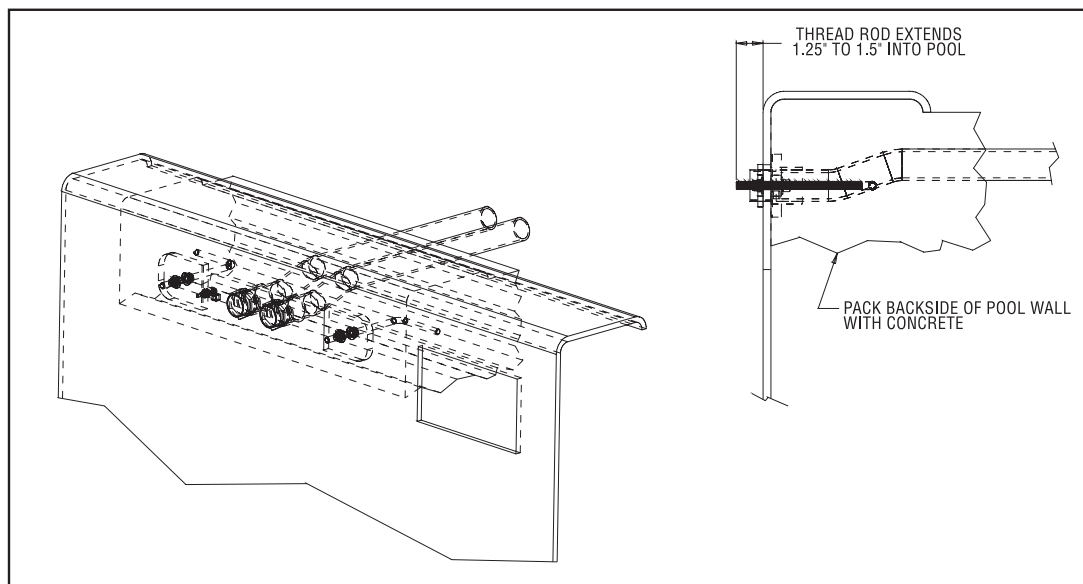

Fig. 4.10
- Thread the 3/8" threaded rod into the holes in the cut off end pieces, so that once permanently installed, 1-1/4" to 1-1/2" of threaded rod will penetrate beyond the pool wall surface. Refer to Figure 4.10. To help prevent cross threading, thoroughly clean the exposed end of the threaded rods of any excess fiberglass before threading nuts onto the threaded rods.
- Thread the 3/8" threaded rod into the holes in the bracket, so that once the PVC bracket plate is permanently installed, 1-1/4" to 1-1/2" of threaded rod will penetrate beyond the pool wall surface. Refer to Figure 4.10. To help prevent cross threading, thoroughly clean the exposed thread of any excess fiberglass before threading nuts onto the threaded rods.
Pour the concrete collar around the top flange of the pool, securely encasing the threaded rod assemblies and conduit (with possible adapters) in place. Even if a bond beam is not being poured for the pool, it is essential for the operation of the Fastlane that this assembly be securely anchored in concrete. Refer to Figure 4.10. Only when the concrete has cured is it okay to remove the washers and jam nuts and install the Fastlane. Note: Do not throw away these washers and nuts, because they will again be used to anchor the Fastlane to the pool wall.